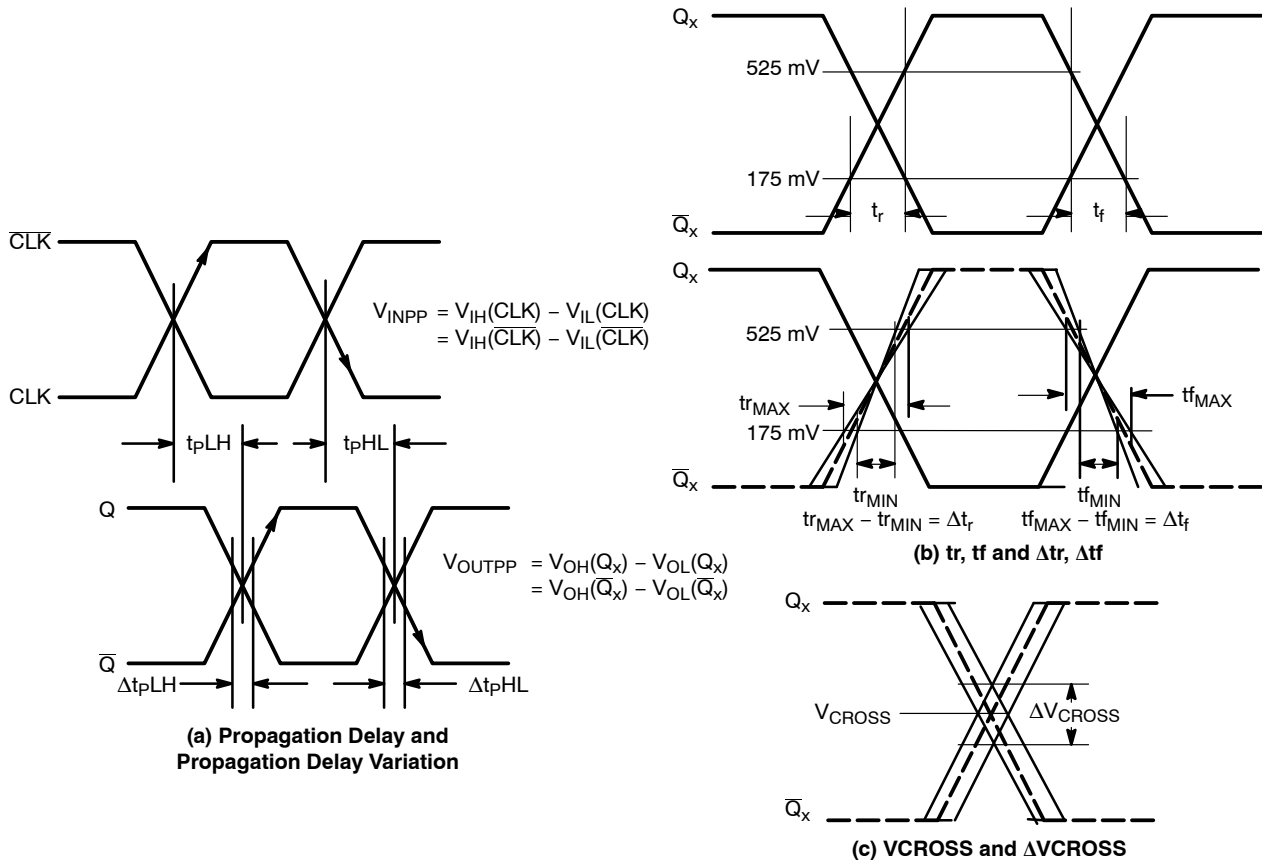

Figure 3. AC Reference Measurement
- Measured from the input pair crosspoint to each single output pair crosspoint across temp and voltage ranges per Figure 3.